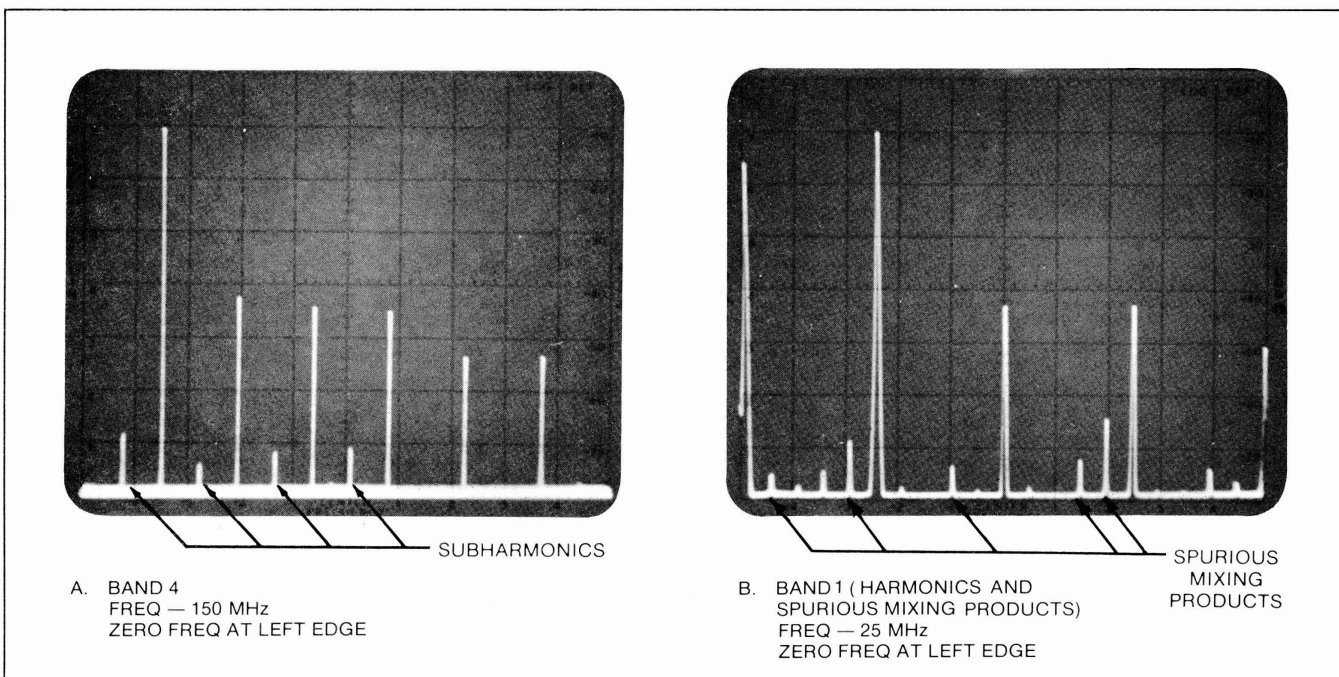

Figure 2-13 Typical Spectrum Display, Showing Harmonics
**2-32. Avoidance and Identification of Harmonics.** Careful consideration to the suppression of harmonics has been given in the design of the Model 102D. The extent to which harmonics and other spurious signals are suppressed is typified in Figure 2-13. Harmonics should not normally present a problem in the use of the Model 102D. The direct-reading output frequency indicator provides assurance that equipment being tested will not be tuned inadvertently to a harmonic. A quick visual check to ascertain that the frequency setting of the equipment being tested corresponds to the output frequency indication on the Model 102D is all that is normally required.